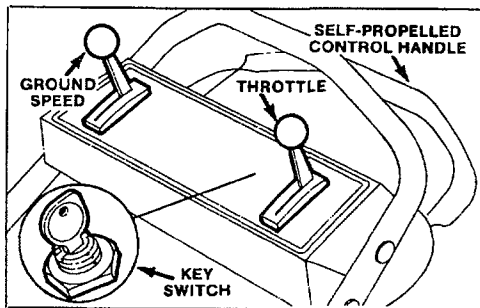
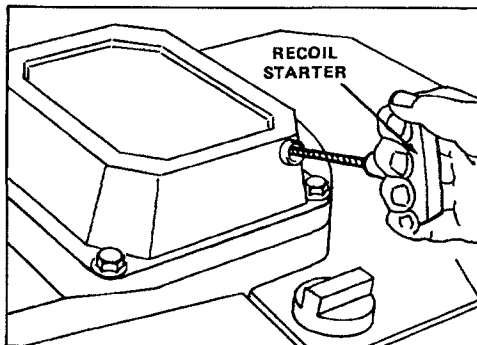

Figure 9
Figure 10
1. CONTROLS — Key switch (model 20624) throttle, ground speed control and blade/self-propelled control bar are on upper handle (Fig. 9). Fingertip starter is on top of engine.
2. Push high tension wire onto spark plug and move ground speed control to "N" (Fig. 9).
3. KEY-ELECTRIC® STARTING (MODEL 20624)—Move throttle (Fig. 9) to CHOKE. Turn key (Fig. 9) to START and release when engine begins running. Regulate throttle as desired. If battery is discharged, engine can be started with the recoil starter (Fig. 10).
4. FINGERTIP STARTING (MODEL 20622)—Move throttle to CHOKE. Pull engine mounted fingertip starter out until positive engagement results; then pull vigorously to start the engine (Fig. 10). Regulate throttle as desired when engine starts. When temperature is near 40°F, a few extra pulls may be required because the engine needs priming.
7. STOPPING (Fig. 9) — Release control bar to stop blade and traction drive. Move ground speed control to "N". To stop engine, move throttle to OFF. Remove key from switch or pull wire off spark plug if mower is unattended or not used.